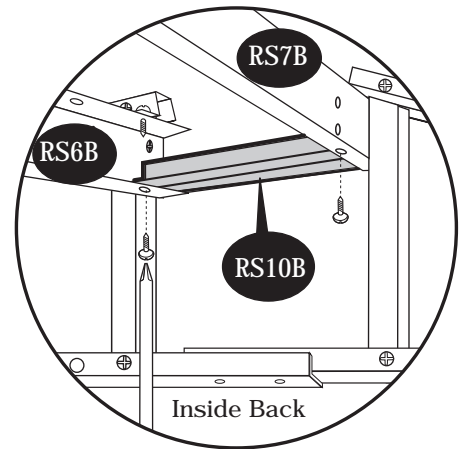

fig.3
23. Attach the roof structures (RS4B) to (RS3B) and (RS5B), (RS6B) & (RS7B) assembly with (S1) screws. See (fig.1) (fig.2) (fig.3) and (fig.4).